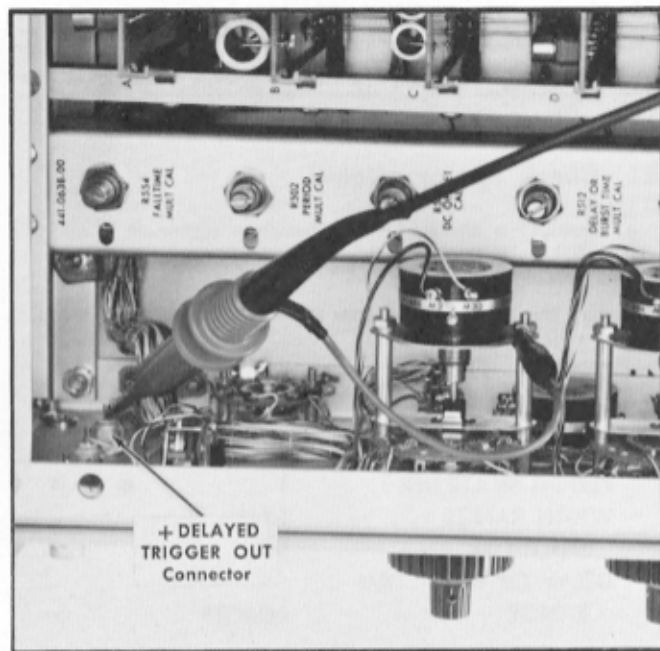

Fig. 7-34. Probe connection to the +DELAYED TRIGGER OUT connector inside the front panel.
- c. Connect the probe tip to the +DELAYED TRIGGER OUT connector just inside the front panel of the instrument (see Fig. 7-34) and connect the probe ground clip to chassis ground.